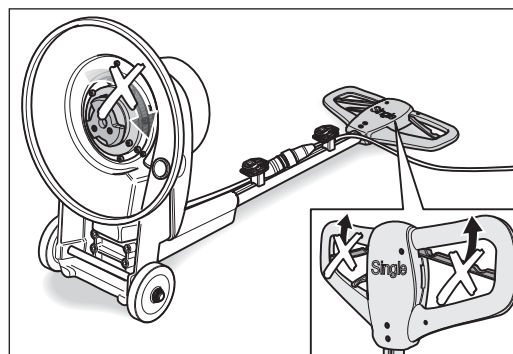

Fig. 9 Never switch on the machine unless there is a sanding plate mounted!
- There is a sanding plate mounted (Fig. 9).